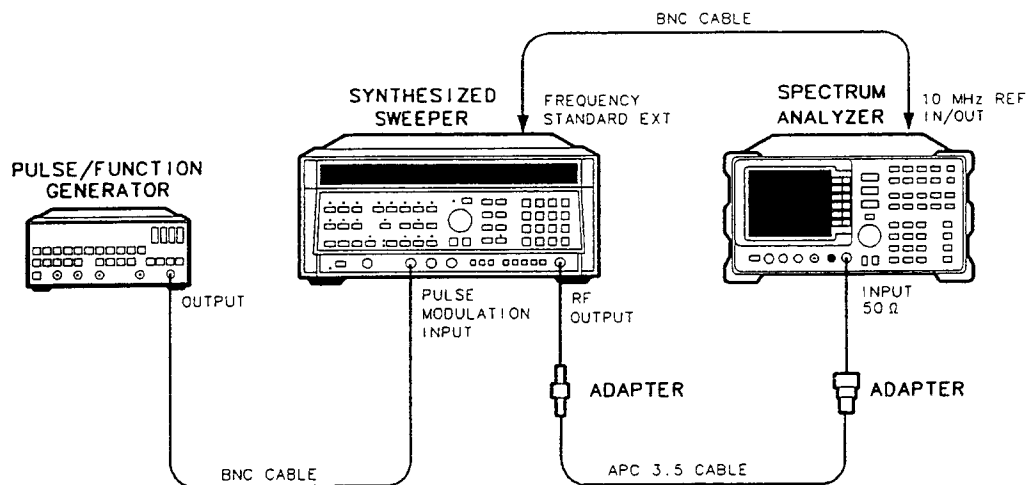

Figure 3-15. Pulse Digitization Uncertainty Test Setup
1. Connect the equipment as shown in Figure 3-15.